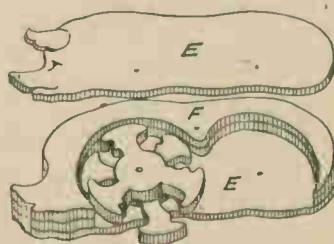

Fig. 4—The "walking" mechanism in position
rounding off as will be seen in Figs. 1, 2 and 4. The measurement of (D) is, length $2\frac{1}{2}$ ins., width $1\frac{1}{2}$ ins., and the top edge and the lower edge will be chamfered. Piece (E) is a plain piece $2\frac{1}{2}$ ins. long by $\frac{1}{2}$ in. wide. It glues on top of piece (D) and between the two sides (B), see Fig. 4 again.
A little care and attention are needed in making the pig. There are fourteen distinct pieces which make the animal, and wood $3/16$ in. and $\frac{1}{4}$ in. will be required. The construction of the body and the legs can be seen at a glance at the sectional diagram, Fig. 4. The body is composed of two inner $3/16$ in. pieces, F, in the diagram, with two outer and complete bodyline outline pieces as, E, in the same diagram.
Both the distinct outlines can, therefore, be traced at one time on to paper by means of the $\frac{1}{4}$ in. squares, and then separate outlines transferred to their respective $3/16$ in. and $\frac{1}{4}$ in. pieces of wood ready for cutting. In Fig. 4 the two inner $3/16$ in. pieces are shown complete and glued up, with one $\frac{1}{4}$ in. full-side piece also glued on.